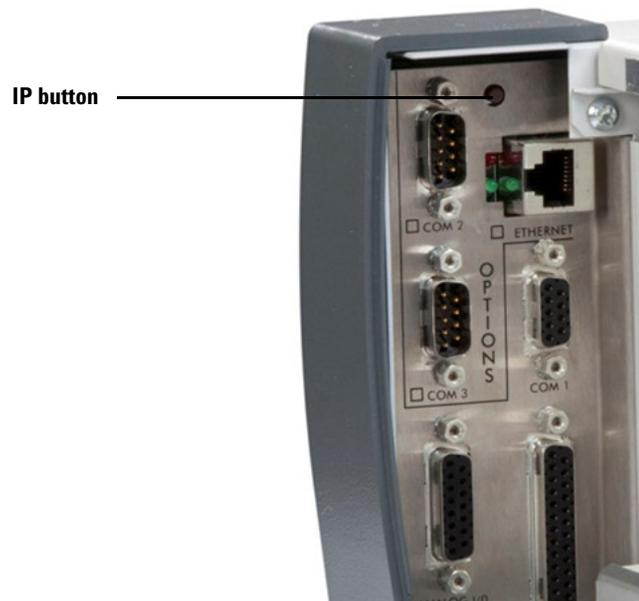

Figure 13 IP button
- 6 Start up the Micro GC with the IP button pressed until the Power LED and Ready LED starts blinking (see Figure 13).